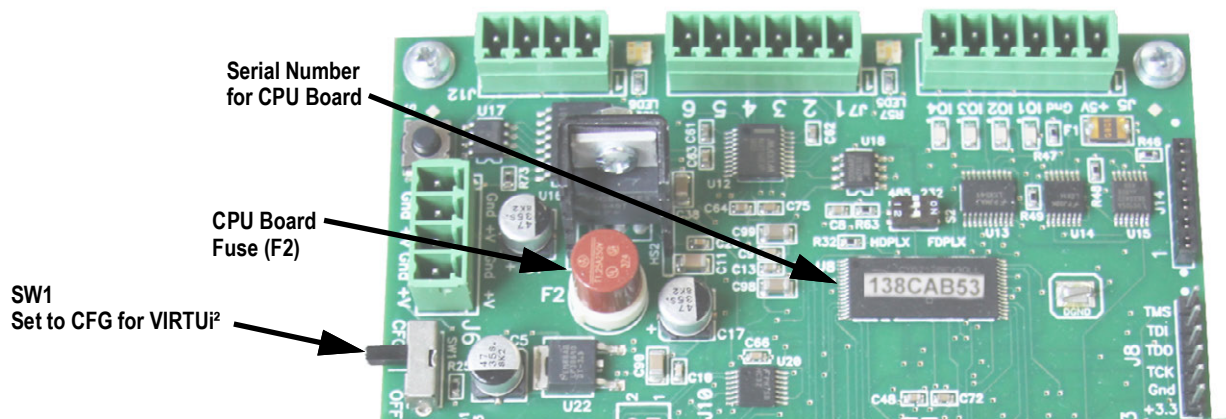

Figure 5-1. SW1 Location on CPU Board
3. For each secondary device, enter the desired ID (located on the CPU board; see Figure 5-1 on page 69).
1. Set SW1 to CFG, if not currently connected to the iQUBE². See Figure 5-1 on page 69.